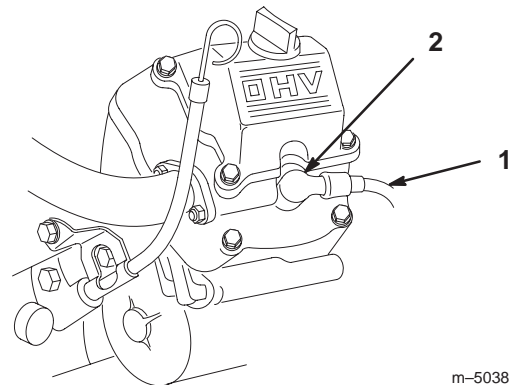

Figure 44
2. Clean around the spark plug(s) to prevent dirt from falling into the engine and potentially causing damage. Pull the wire(s) off of the spark plug(s) (Fig. 44).
3. Push the wire(s) onto the spark plug(s) (Fig. 44).